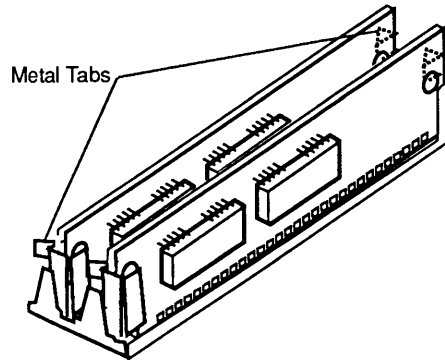

Figure 6-7 Removing a SIMM
3. Removing a SIMM involves releasing the metal tabs on the ends of the socket (**Figure 6-7**). Refer to the *You Oughta Know* tab for instructions on using the SIMM removal tool.